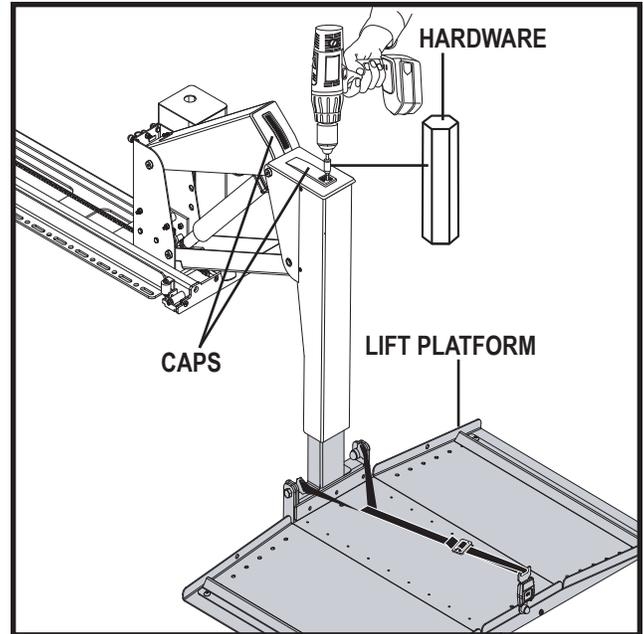

Figure 11. Raise or Lower the Platform. **DO NOT** use the Flex-Shaft for this Operation
The Backpacker lift platform can be raised/lowered from the adjustment point located at the top of the lift (see figure 11).
PROHIBITED! DO NOT use the flex-shaft when manually raising or lowering the lift platform while using the method illustrated in figure 11. Attach the needed hardware directly to the drill.
1. Secure the appropriate end of the flex-shaft to a drill, and depending on which part of the lift you want to move, attach the appropriate hardware to the other end of the flex-shaft. **See figures 11, 12 13, and 14.**